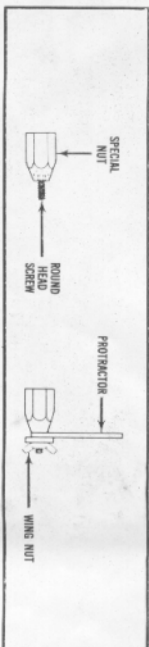

FIGURE 11
3. Install the round head screw in the special extension nut and jam the screw tight (Figure 11). Assemble the protractor on the nut and secure with the 10-24 wing nut.